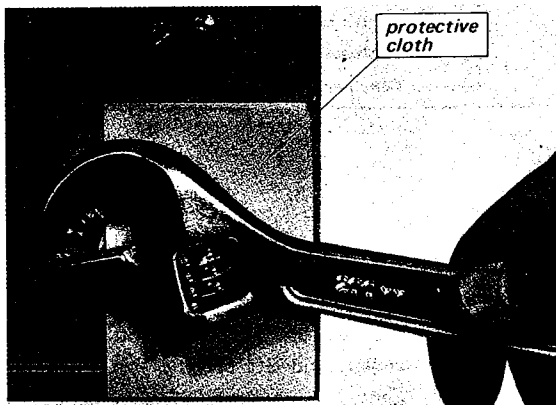
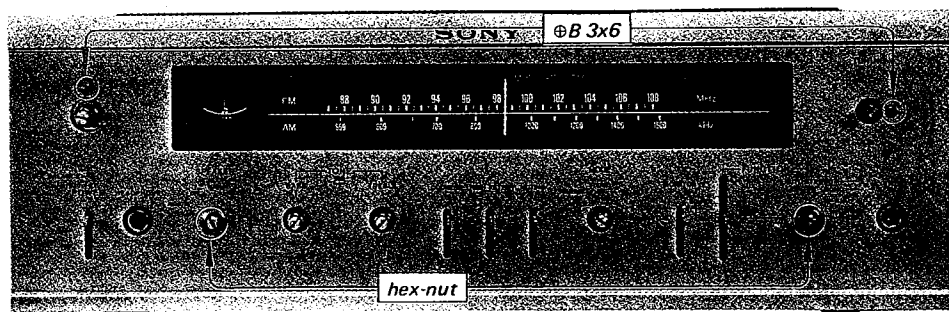

Fig. 2-4. Hex nut removal
Fig. 2-3. Front panel removal
3. Remove the two self-tapping screws ($\text{\textcircled{B}}\text{ 3}\times\text{6}$) and two hex-nuts securing the front panel to the front sub-chassis as shown in Fig. 2-3. Place a piece of cardboard or cloth between the wrench and front panel to avoid marring the panel as shown in Fig. 2-4. Now the front panel is free for servicing.